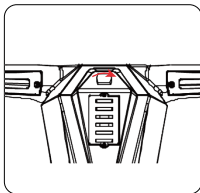

Figure05
3. Turn on the machine (Figure 05-Figure 06).